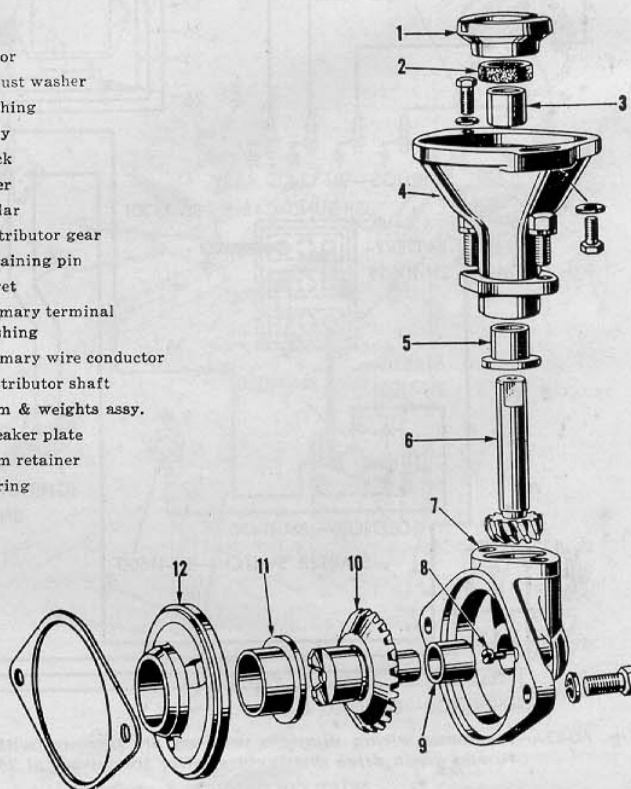

Fig. FO47—Magneto drive adapter optional equipment on 2N.
61. Some model 2N tractors are equipped with magneto ignition systems. A Fairbanks-Morse FM-J4B73 magneto is used and is driven by the camshaft through a magneto drive adapter as shown in Fig. FO47. Refer to Standard Units manual for detailed overhaul and test information on magnetos.